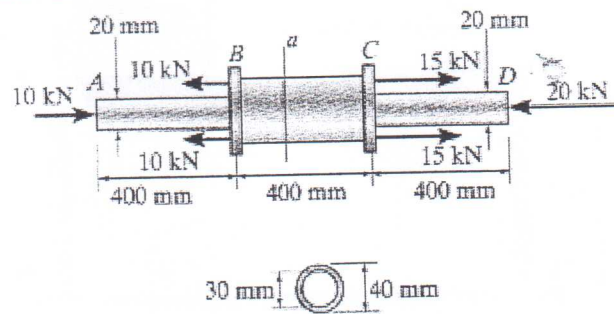

Figure 5.
- (8) Segments AB and CD of the assembly shown in Figure 5 are solid circular rods and segment BC is a tube. If the assembly is made of aluminum of $E = 70 \text{ GPa}$, determine the displacement of end D with respect to end A .